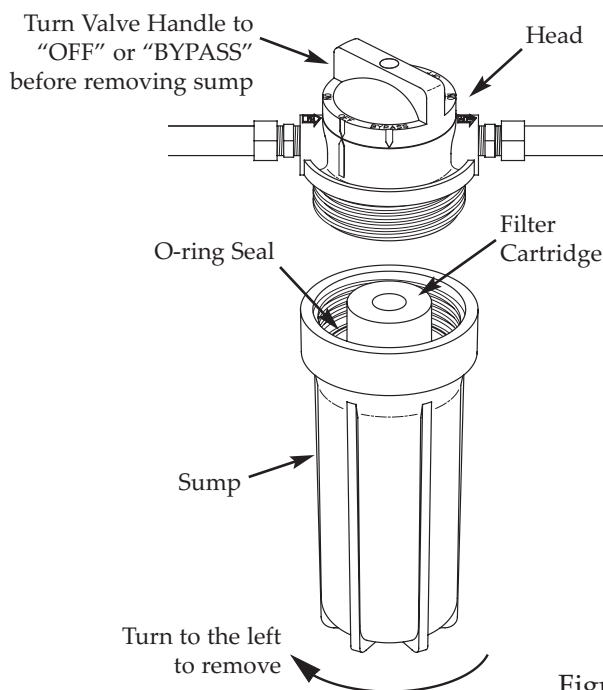

Figure 14
2. Turn the sump to the left to remove from the head (See Figure 14). Be careful, as the sump is full of water. Do not lose the large o-ring seal.
To remove the sump, turn it to the left (See Figure 14 on Page 11).